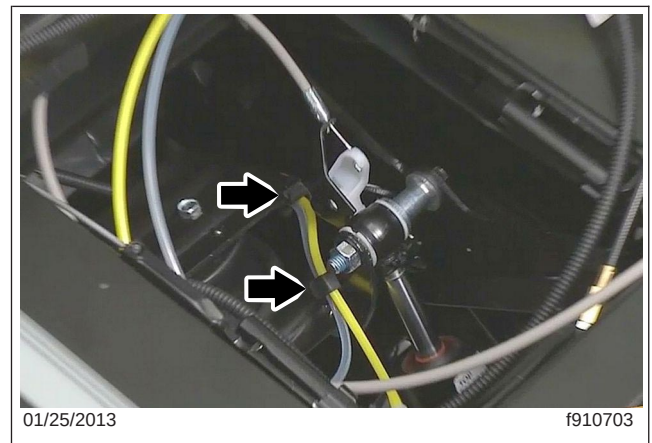

Fig. 3, Air Hose Clips
7. Pull the two air lines out of the two hose clips next to the shock absorber. See Fig. 3.